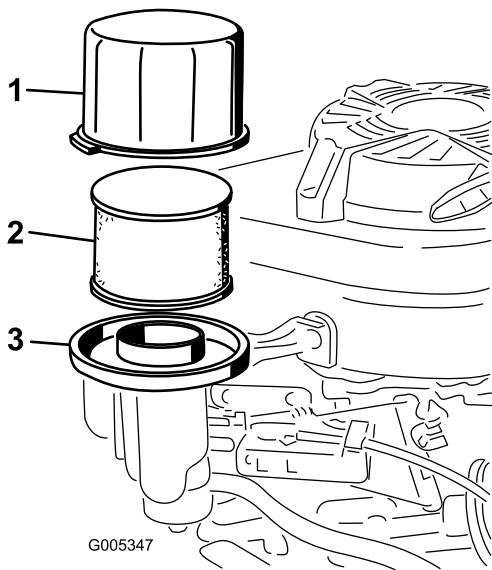

Figure 18
3. Remove the cover and clean it thoroughly (Figure 18).
4. Remove the foam pre-cleaner and the paper-air filter from the air-cleaner base (Figure 18)